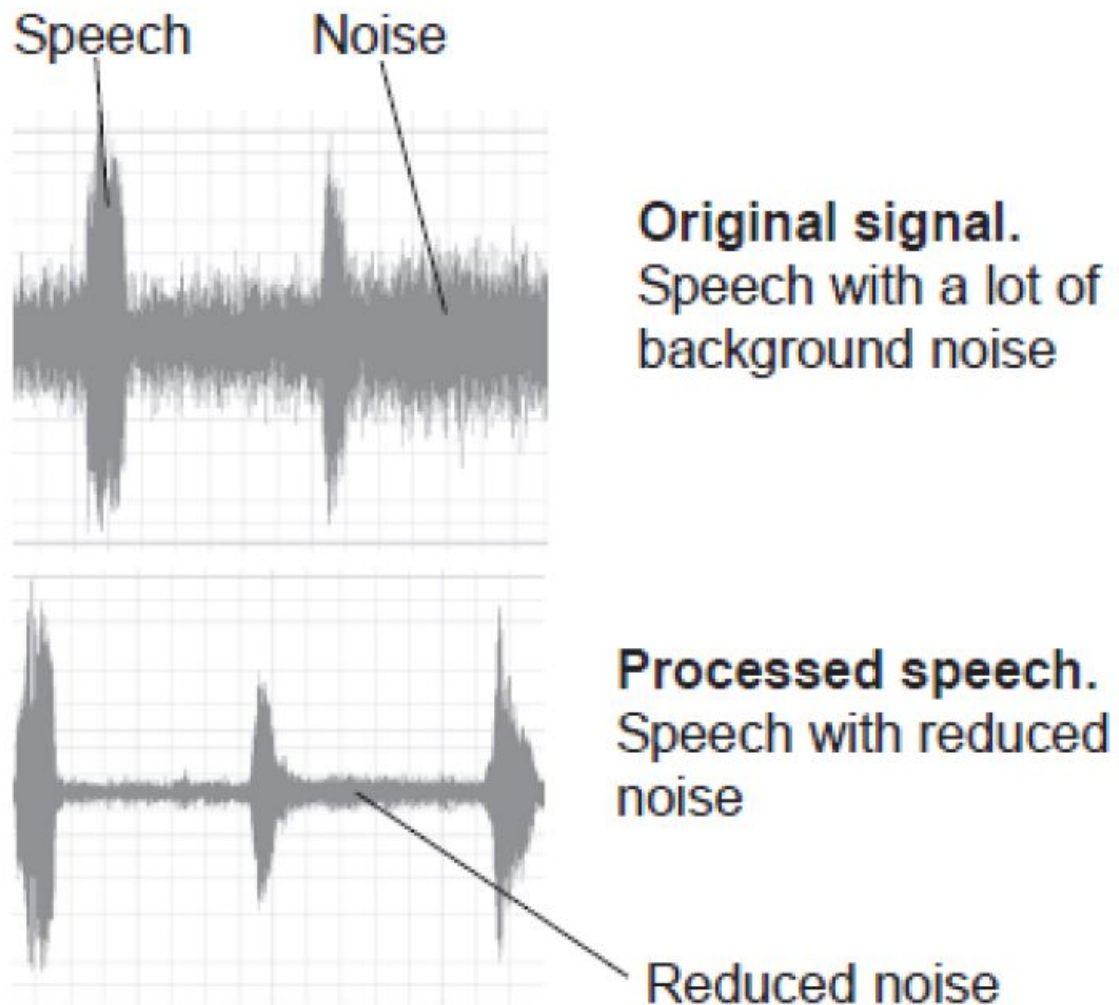

Figure 1 – Noise Cancellation
- The diagrams in Figure 1 (opposite) are taken from actual audio signals and illustrate how the signal is being processed.